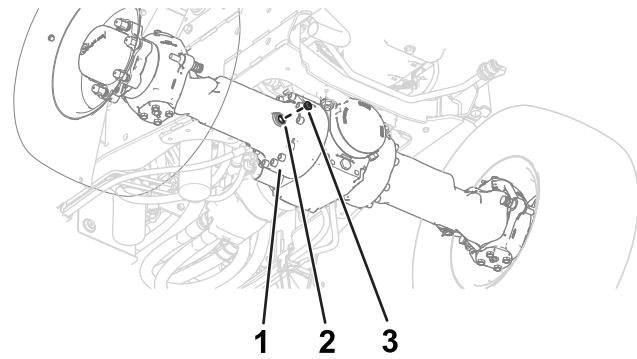
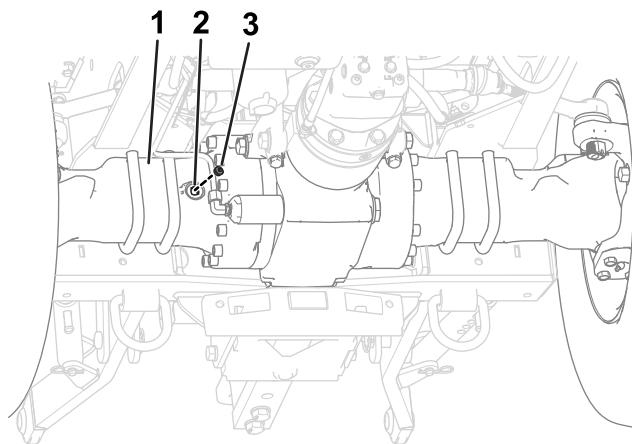

Figure 97
Figure 98
2. Remove the plugs from the sight port in the differential housing of the axle (Figure 97 and Figure 98).
3. Look through the sight port and check that the oil level in the axle is level with the bottom of the threads of the port (Figure 97 and Figure 98).
6. Install the sight plug into the sight port in the differential housing of the axle (Figure 97 and Figure 98).
**Note:** Refer to Figure 98 for the rear-axle sight port.